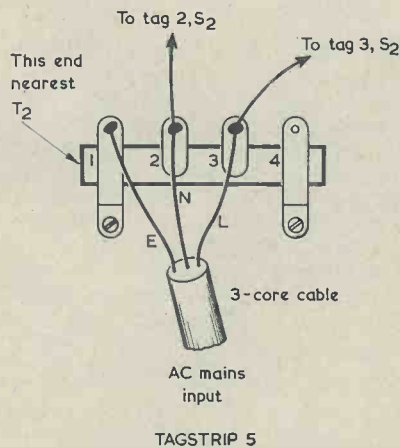

Fig. 4. Wiring-up details for Tagstrip 5
1. The first part of the circuit to wire up is the power supply section, and Figs. 3, 4, 5 and 11 show the wiring required here. Tagstrip 5, in Fig. 4, is the 4-way tagstrip which is nearer the mains transformer, T2. Tagstrip 4, shown in Fig. 3, is the remaining tagstrip on the rear chassis apron. The mains input lead connects to tagstrip 5, from which two leads then carry the neutral and live inputs to S2 on the rear of a.f. gain control R13. Two further leads return from S2, carrying the switched mains input to tags 2 and 3 of Tagstrip 4. Fig. 11 does not show the exact layout of the switch tags for S2 because tag layout varies for different switches. The constructor must, in consequence, trace through the two poles of the switch with the aid of an ohmmeter or a simple continuity tester consisting, say, of a battery and bulb in series, before making connections to this switch. The two leads from Tagstrip 5 to the switch should be twisted together, as also should the two leads from